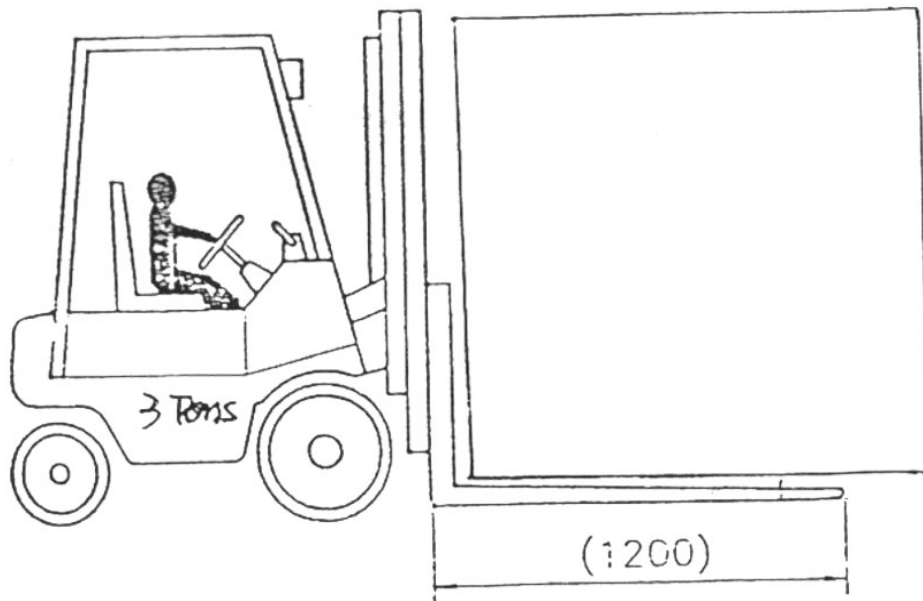
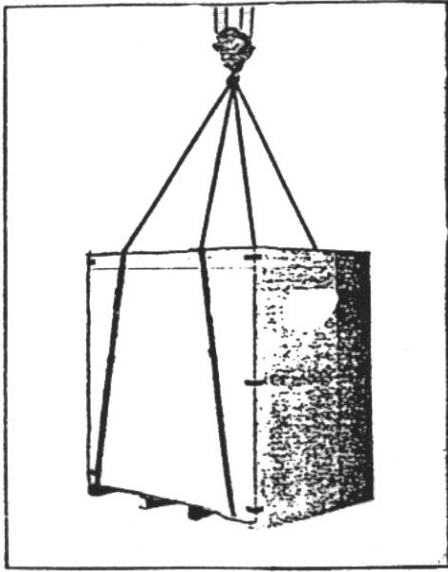

FIG7-1
FIG7-2
- (1) Machine net weight: approx. 1010KGS
- (2) Prior to unpacking, transport may be using a forklift (fig. 7-1) and a reinforced cable (fig. 7-2).